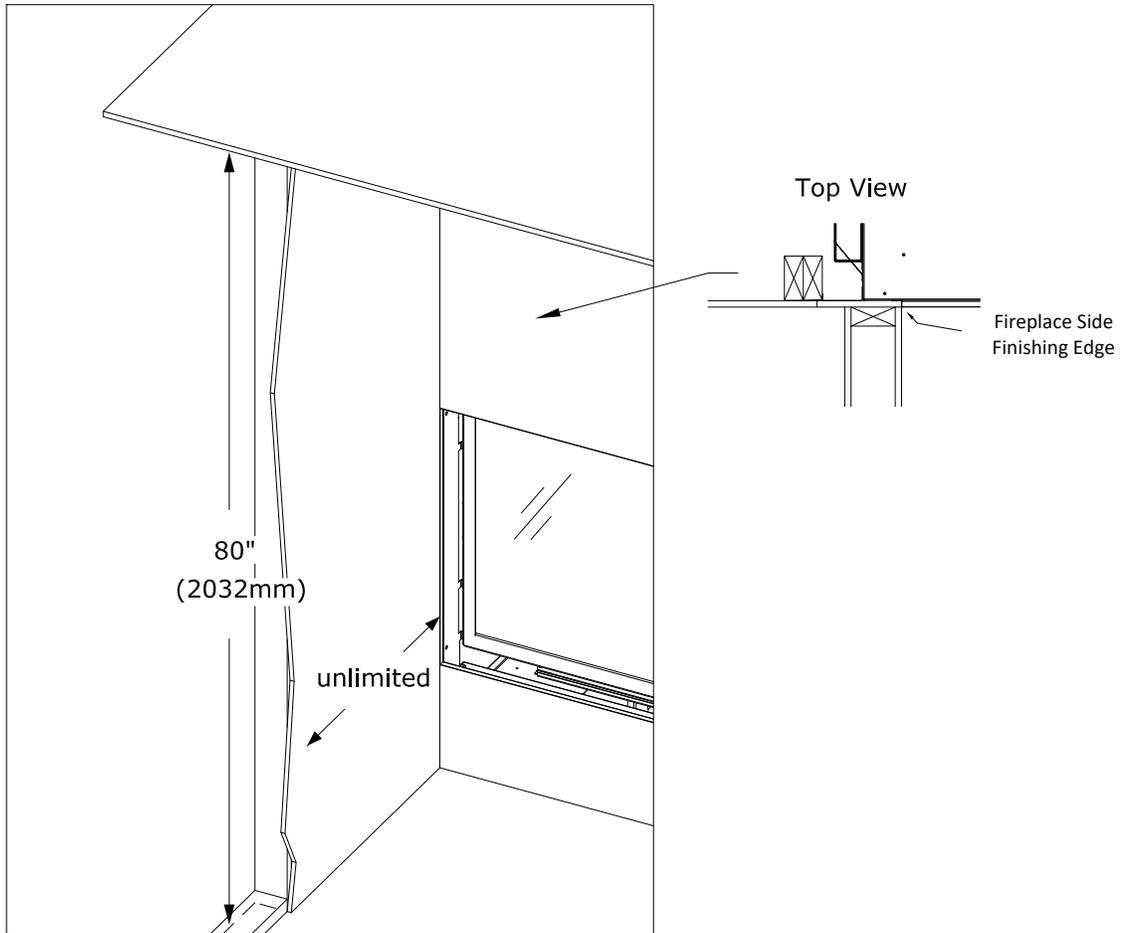

Figure 5.3 - Combustible Sidewall Projection
- Mantel Leg: Follow "Combustible Sidewall Clearance" below. See Figure 5.3.
- Combustible Sidewall Clearance: the adjacent sidewall projection is unlimited and is allowed at 0" (0mm) from the side finishing edge of the fireplace. See Figure 5.3.
Figure 5.3 shows a combustible sidewall at 0" (0mm) from the side finishing edge of the fireplace. The combustible sidewall is allowed to be unlimited. If you are using the optional NK60TL-RS Rectangle Surround (Section 8.5) provide the necessary clearance of 3/4" (19mm) to sidewall.